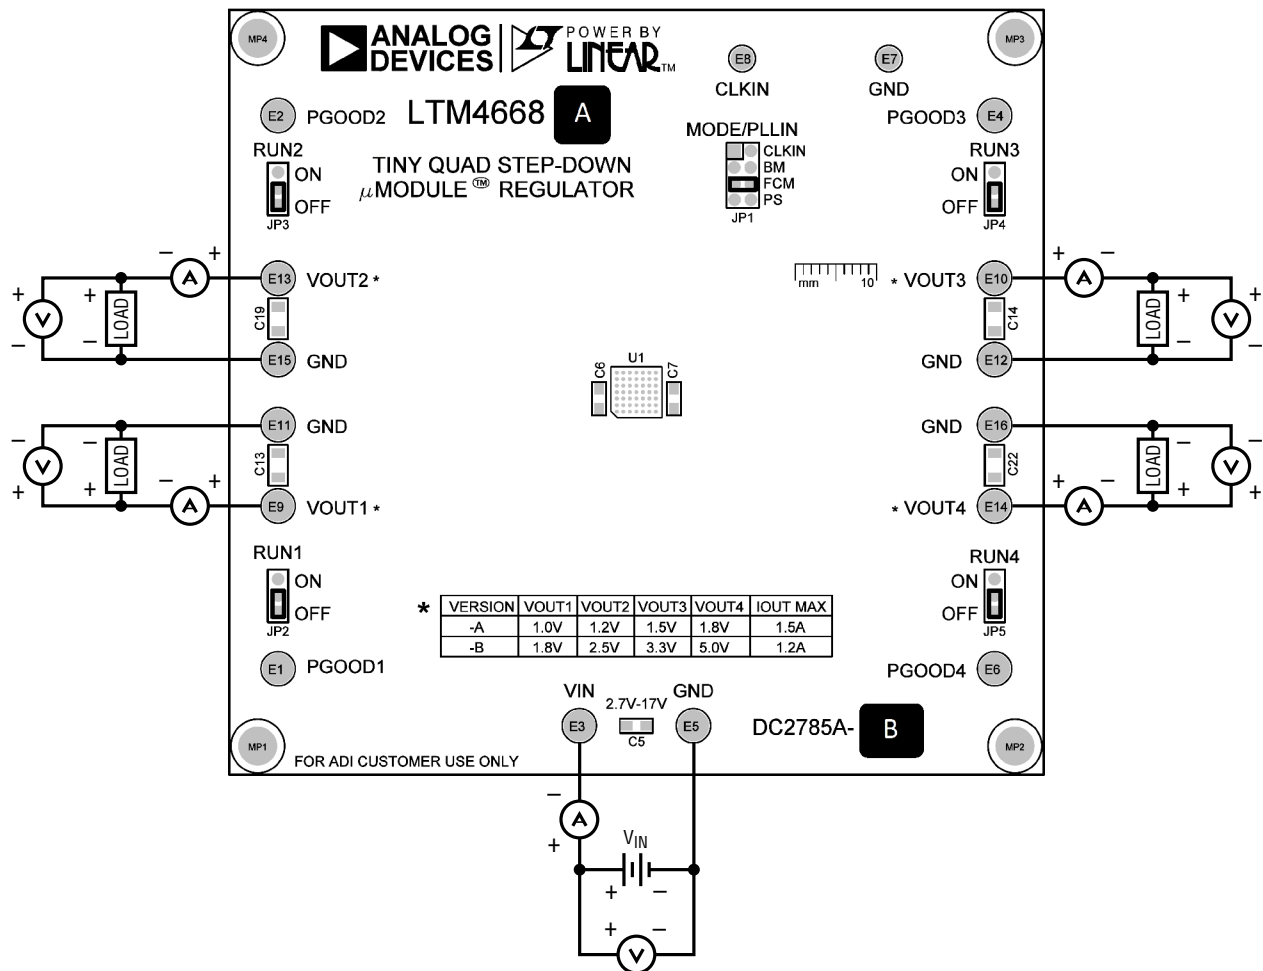

Figure 1. Test Setup
Demonstration circuit 2785A-B is an easy way to evaluate the performance of the LTM4668A. Please refer to Figure 1 for test setup connections and follow the procedure below.
3. With power off, connect the loads, input voltage supply and meters as shown in Figure 1.